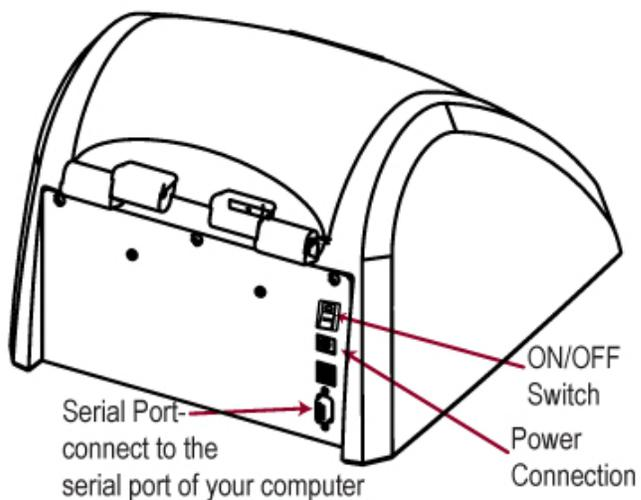

Figure 2
2. Turn ON the ON/OFF switch located at the back of the Modulus (Figure 2).